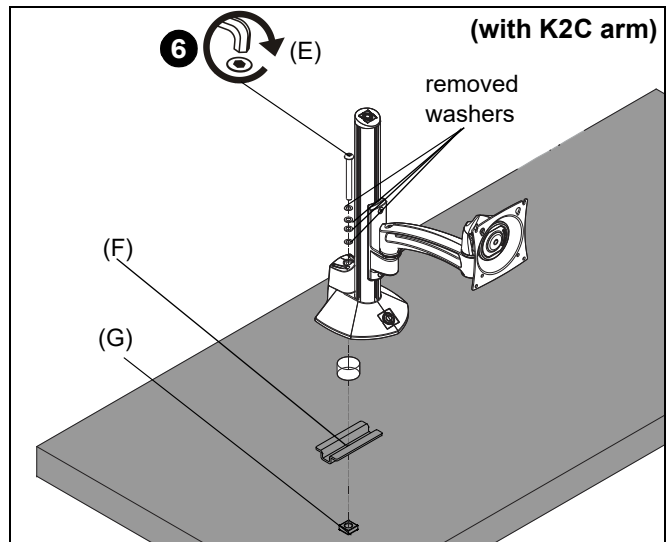

Figure 7
5. Place mount on desk over grommet hole. (See Figure 7)
6. Use 5/16-18 x 6" button head cap screw (E), clamp bracket (F), removed washers and 5/16-18" square nut (G) to secure mount to desk. (See Figure 7)